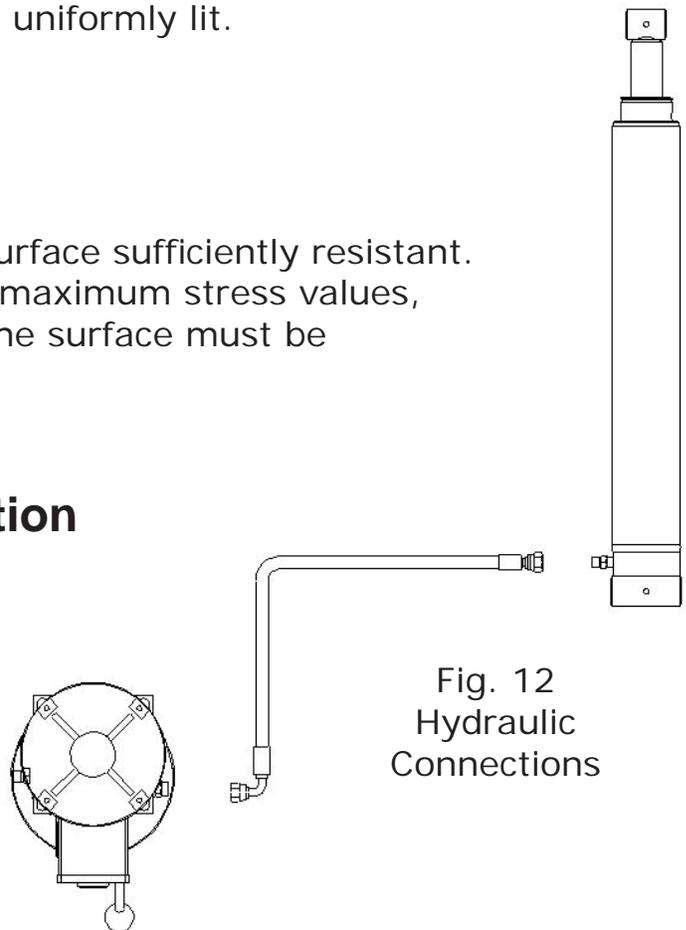

Fig. 12
- Connect hydraulic hoses referring to the figure 12;